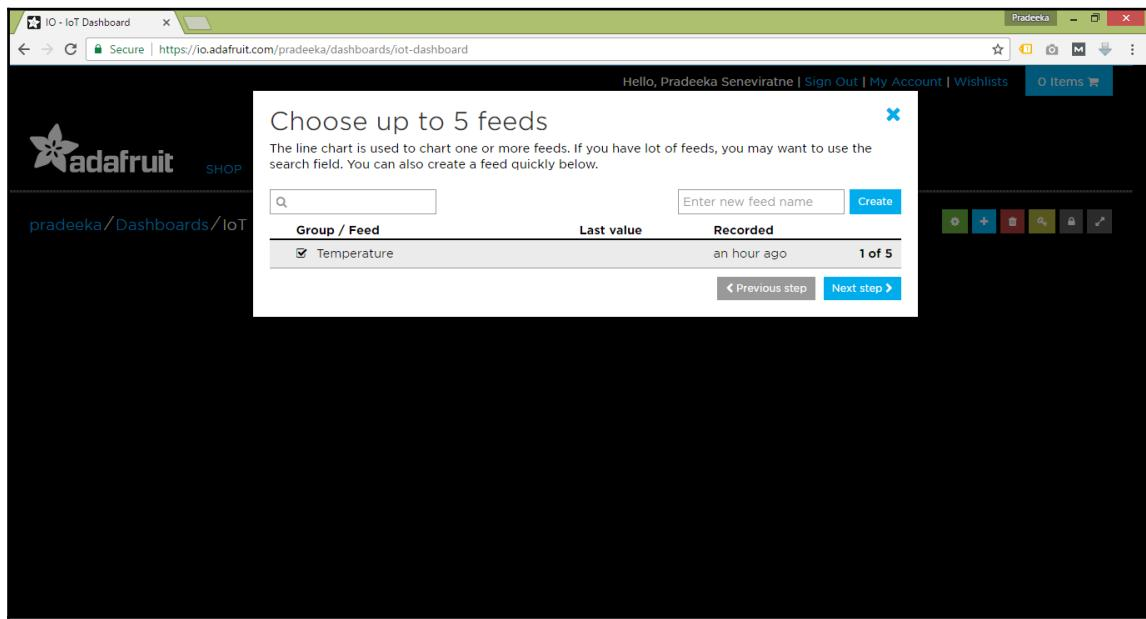

Figure 4-15: Selecting a feed
3. In the **Choose up to 5 feeds** dialog box, select **Temperature** under **Group/Feed** column and click the **Next step>** button (Figure 4-15):